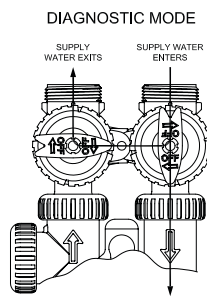

FIGURE 2
- Slowly turn the bypass valve to the DIAGNOSTIC MODE (Figure 2) to allow water to **slowly** enter the system. The mineral is dry and filling too quickly will result in the mineral plugging the drain line and valve assembly.